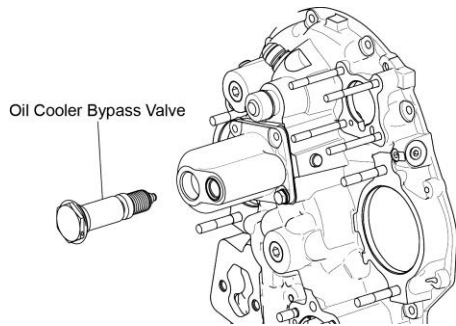

Figure 2
On engines with an oil pressure screen (Figure 2):
3. Install the thermostatic oil cooler bypass valve with a new gasket on the oil pressure screen housing (Figure 2).